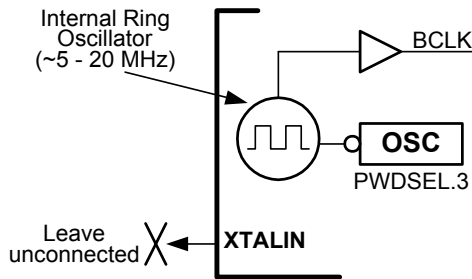

Figure 43. Internal ring oscillator.
1. An internal ring oscillator operates at frequencies ranging between 5 MHz to 20 MHz, as shown in Figure 43. The ring oscillator frequency is temperature, voltage, and process dependent. The internal ring oscillator can be